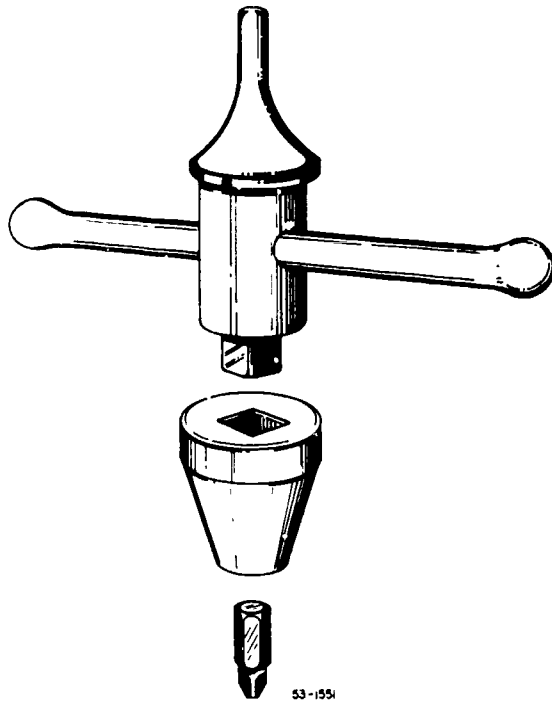

Figure 6-15. Apex adapter tool for pneumatic hammer.
**Using the Pneumatic Hammer.** As we mentioned back in Chapter 5, the pneumatic hammer (fig. 5-11) can be used to speed up screw removal in certain cases. To use the pneumatic hammer for this purpose, you must have an adapter that will fit into the hammer receptacle and will hold the apex or screwdriver bit. A typical adapter is shown in figure 6-15. You can make a good adapter from an old rivet set by grinding a square drive on the end of it. The rivet set already has the correct shape on the hammer receptacle end and is already hardened.